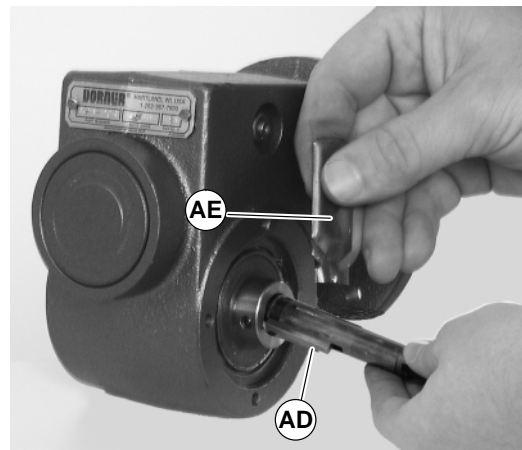

Figure 39
10. Apply grease (AE of Figure 39) to shaft.